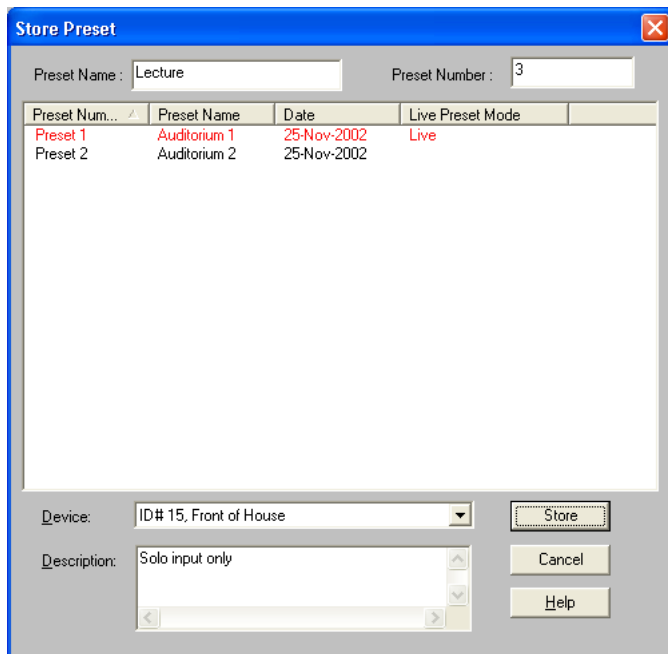

FIGURE 4-2: “Store Preset” Dialog
3. The “Store Preset” dialog will appear, as pictured below in Figure 4-2.